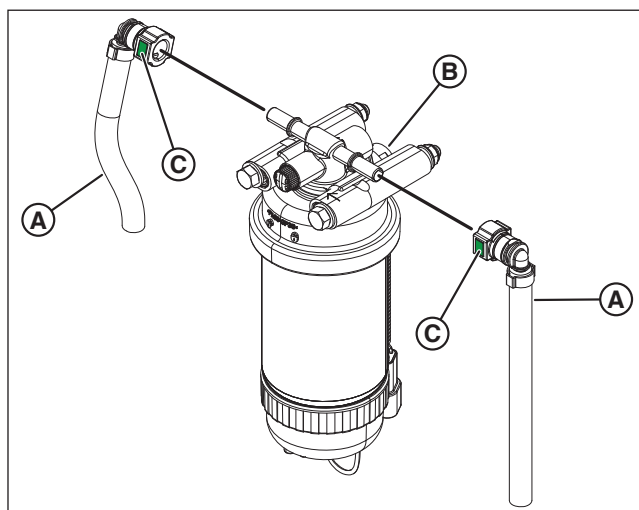

Figure 4. Water Separator and Lines
1. Remove the diesel fuel lines (**A**, **Figure 4**) from the pre-filter water separator head (**B**) by pressing the release buttons (**C**) and pulling away from the head.